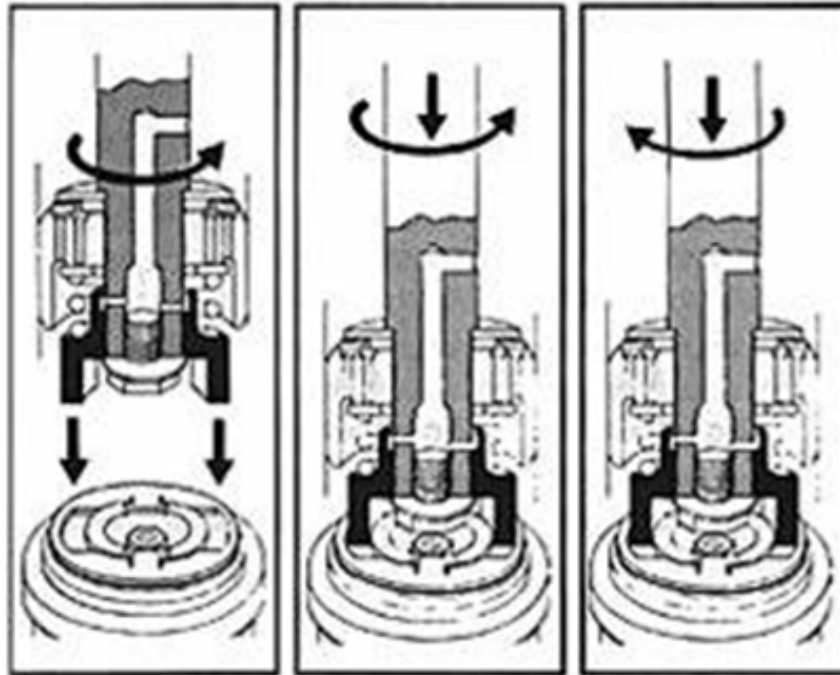

Figure 2: Engagement of the Cams on the Internal Adjusting Nut and the Recesses of the Foot Valve
6. Fully collapse the shock absorber while slowly rotating the dust cap counterclockwise, until the cams on the internal adjusting nut should engage the recesses of the footvalve and a slightly increased resistance to rotation should be felt, see Figure 2.